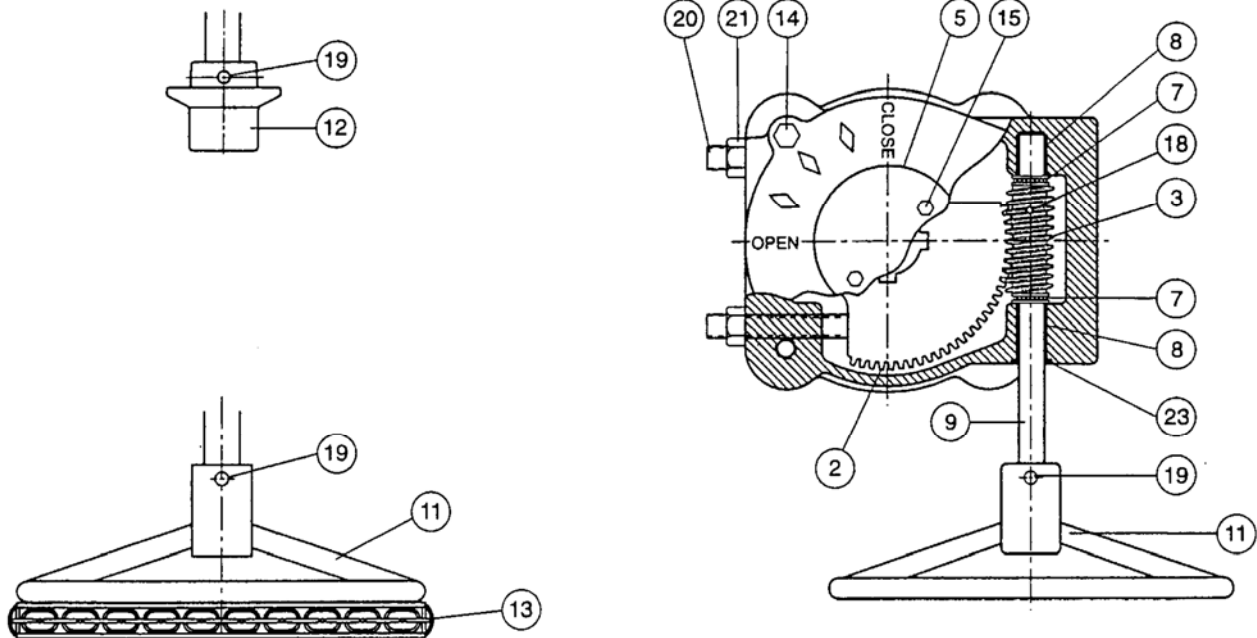

FIGURE 10. GEAR ACTUATOR CONSTRUCTION
**WORM GEAR ACTUATOR MAINTENANCE:** A typical worm gear actuator is shown in Figure 10 and consists of a worm (3) mounted on an input shaft (9). The worm engages a segment gear (2). When the worm is turned, it drives the segment gear through 90° of rotation. The rotation of the segment gear is displayed by the top indicator (5). The gears are lubricated with EP2 grease in a cast iron housing (1). The open and closed positions of the segment gear (2) are controlled by the end position stop bolts (20). The stops can be adjusted by loosening the lock nut (21) and rotating the bolts (20).